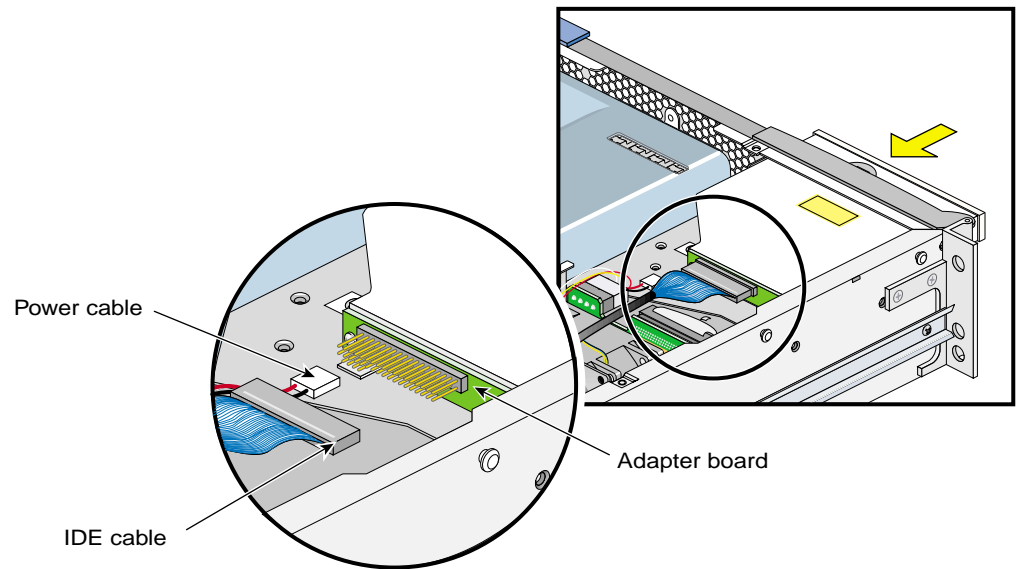

Figure 3 Installing DVD-ROM and Cables
5. From the front of the module, slide the DVD-ROM partially into the module (see Figure 3).